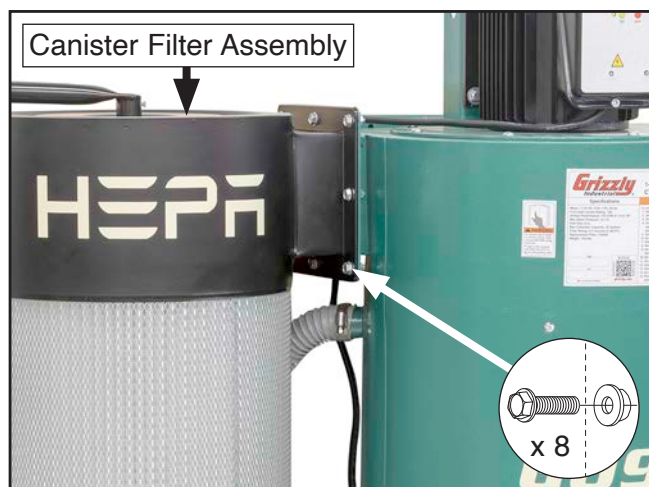

Figure 68. Canister filter assembly attached to impeller housing.
13. With help from an assistant, or power lifting equipment, lift canister filter assembly and secure to impeller housing using fasteners removed in **Step 4** (see **Figure 68**).